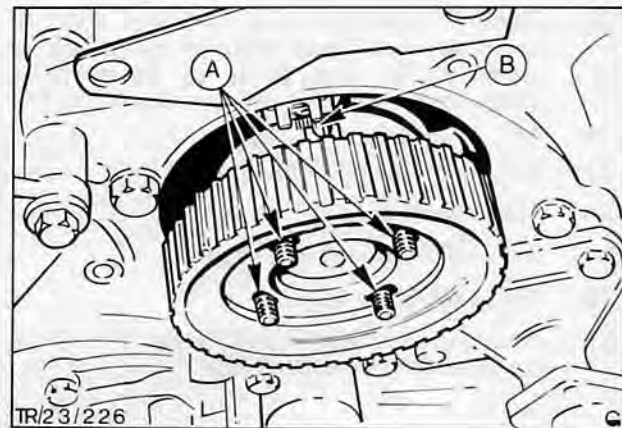

Fig. 49. Injection pump drive gear
28. Refit drive gear ensuring studs are in the centre of the elongated slots and loosely fit plate and four securing nuts, Fig. 49.
29. Ensure camshaft peg is still fitted and crankshaft lined up at T.D.C. Turn pump to the T.D.C. position as shown in Fig. 49, and refit drive belt.